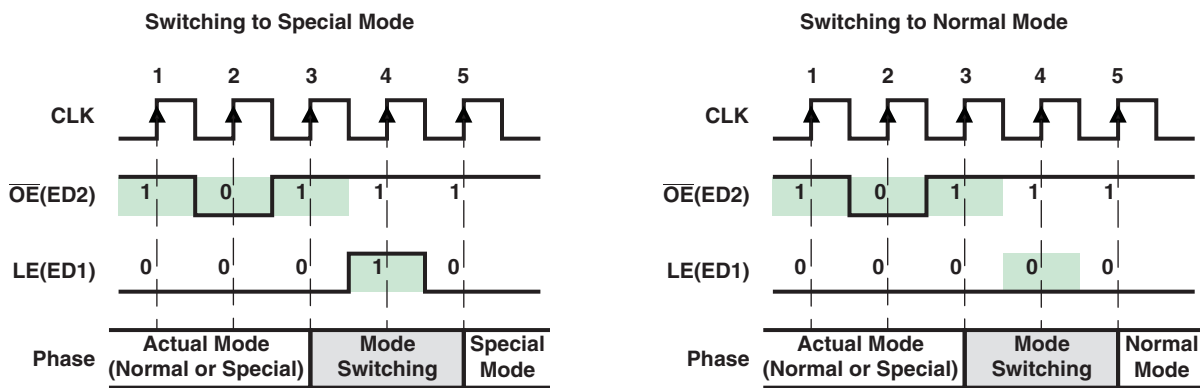

Figure 12. Mode Switching
In order to switch between its two modes, TLC592x monitors the signal $\overline{OE}(ED2)$. When a one-clock-wide pulse of $\overline{OE}(ED2)$ appears, TLC592x enters the two-clock-period transition phase, the Mode Switching phase. After power on, the default operation mode is the Normal Mode (see Figure 12).
As shown in Figure 12, once a one-clock-wide short pulse (101) of $\overline{OE}(ED2)$ appears, TLC592x enters the Mode Switching phase. At the fourth rising edge of CLK, if LE(ED1) is sampled as voltage high, TLC592x switches to Special mode; otherwise, it switches to Normal mode. The signal LE(ED1) between the third and the fifth rising edges of CLK cannot latch any data. Its level is used only to determine into which mode to switch. However, the short pulse of $\overline{OE}(ED2)$ can still enable the output ports. During mode switching, the serial data can still be transferred through SDI and shifted out from SDO.